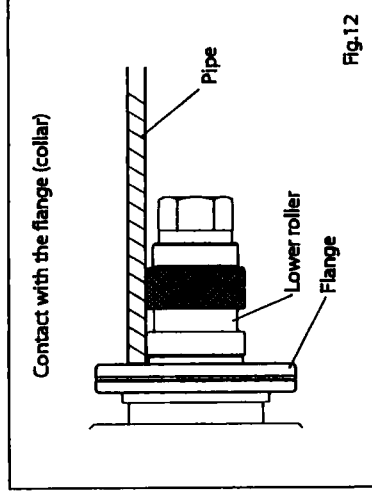

Fig.12
- Insert the pipe to be machined until it comes into contact with the lower roller flange (collar). (Fig. 12)